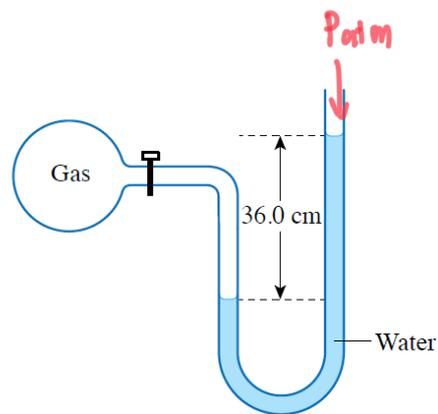

Figure 2.21
1. Figure 2.21 shows a water manometer connected to a flask containing gas.